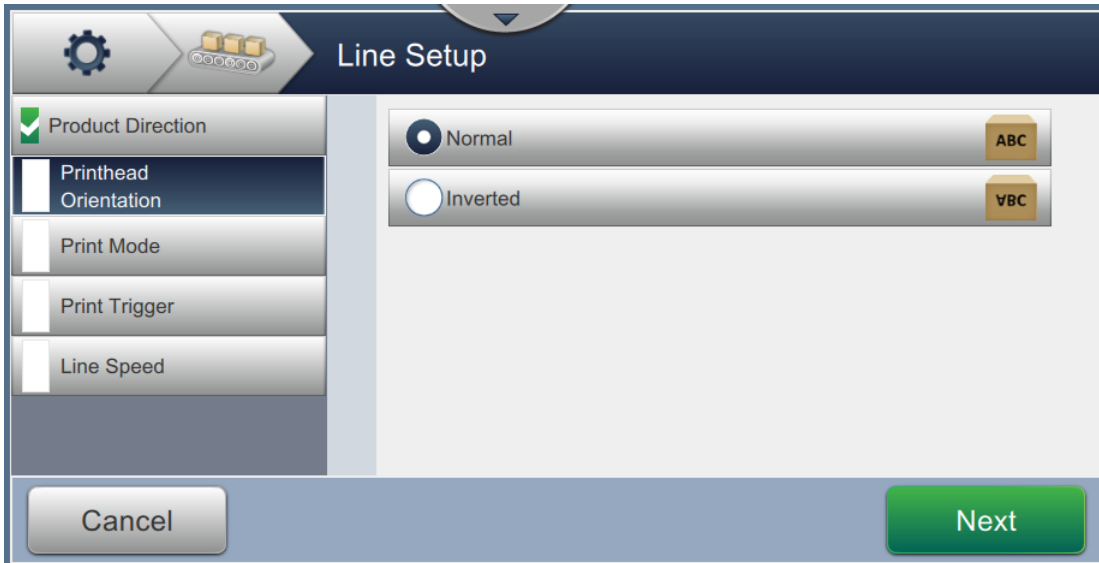

Figure 6-29: Line Setup - Printhead Orientation
1. Select the orientation of printhead as shown in Figure 6-29.